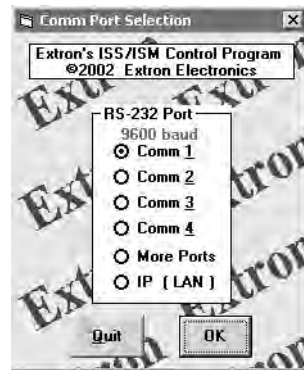

Figure 30. Comm Port Selection Window
1. To run the control program, click **Start > Programs > Extron Electronics > ISSISM**. The Comm menu appears on the screen (see figure 30).